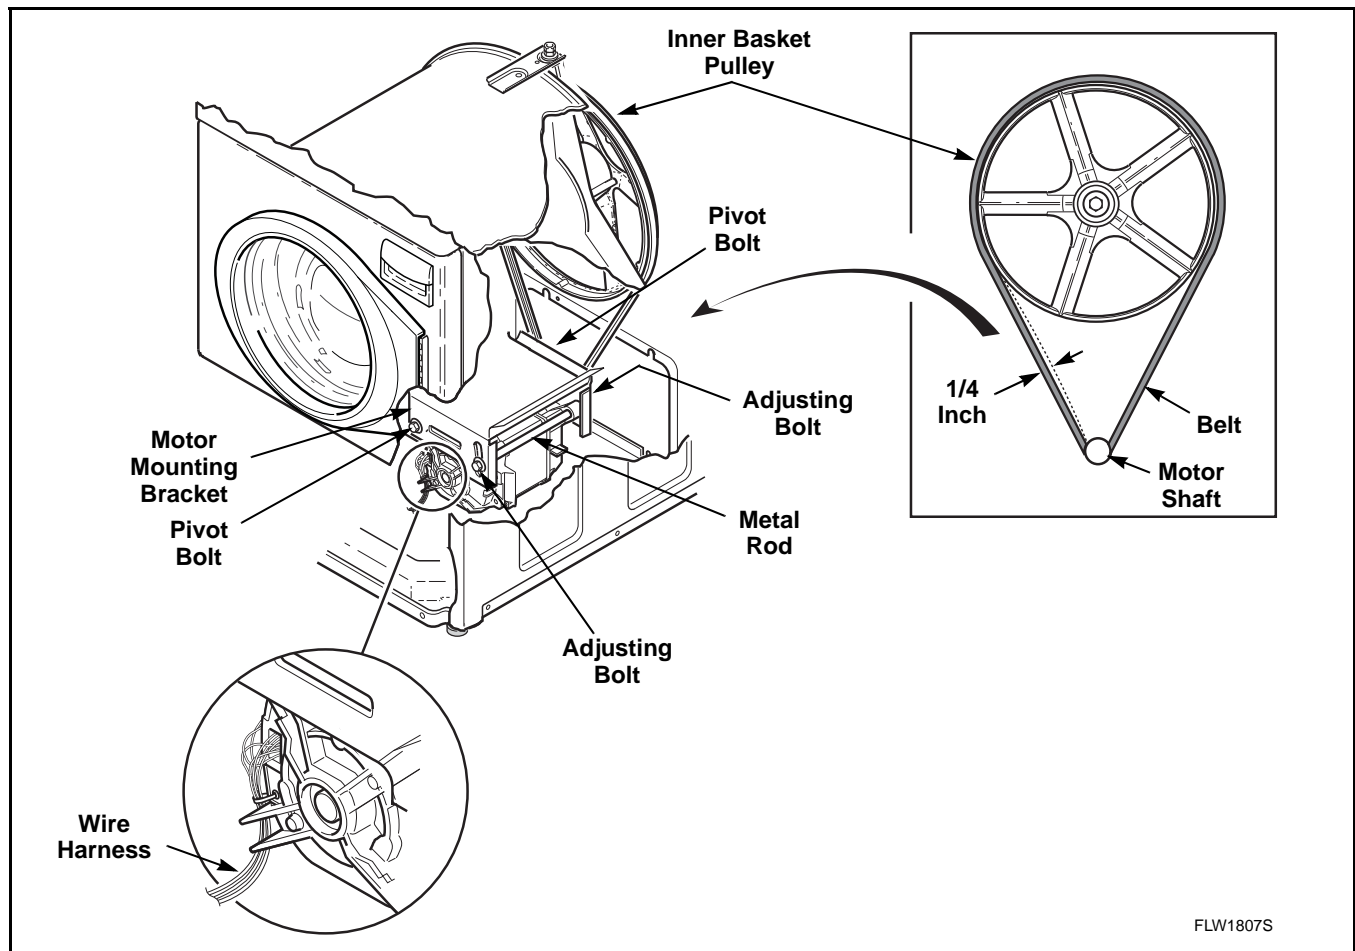

Figure 5
to *Figure 5*. Repeat procedure to loosen the two pivot bolts. Refer to *Figure 5*.
- Pull down on motor to increase belt tension. Use a Burroughs belt gauge to obtain proper tension. Proper belt tension is obtained when belt can be deflected approximately 1/4 inch (6.35 mm) from normal position when moderate pressure 50 to 60 pounds (22.68 to 27.22 Kg) is applied to a point midway between pulleys. Refer to *Figure 5*.
- After proper belt tension has been obtained, tighten belt adjusting bolts firmly, then tighten pivot bolts. Refer to *Figure 5*.